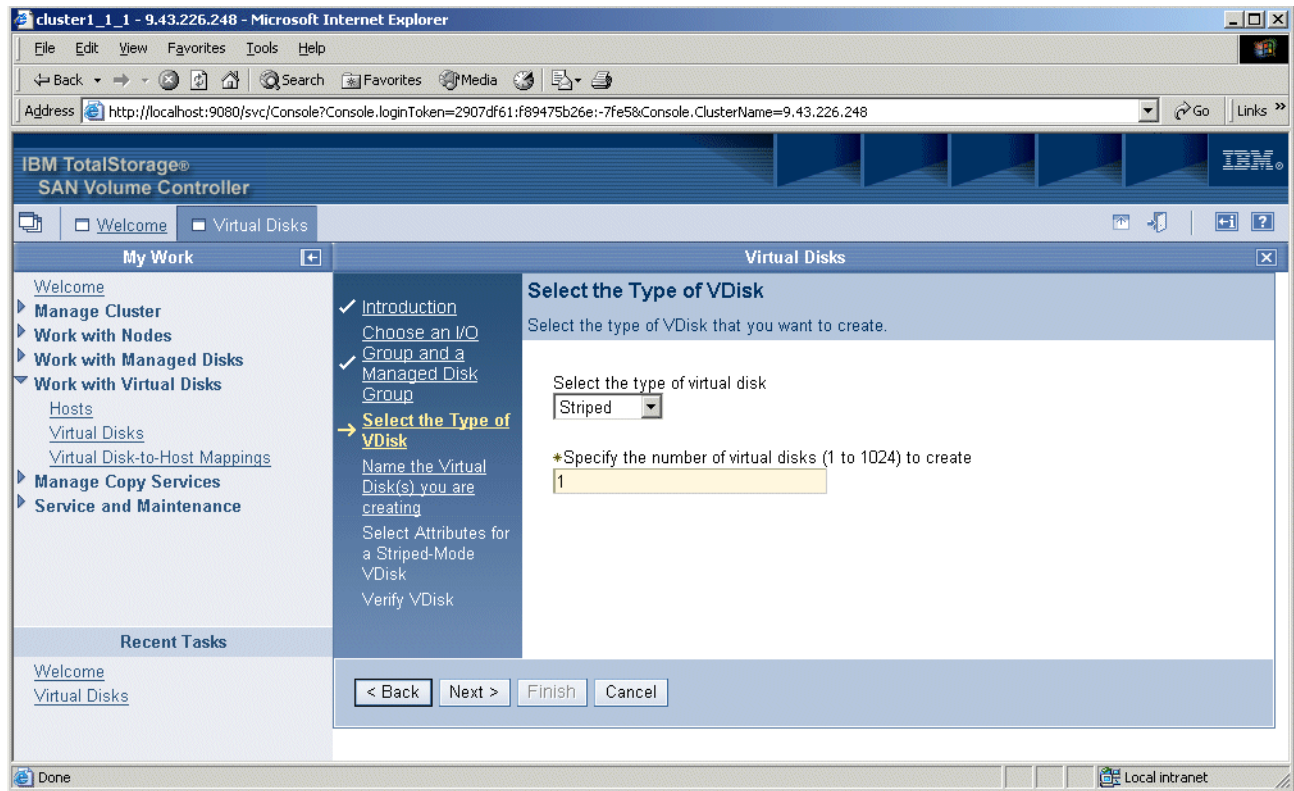

Figure 6-34 Select the Type of vDisk panel
6. On the Select the Type of vDisk panel (Figure 6-34), follow these steps: